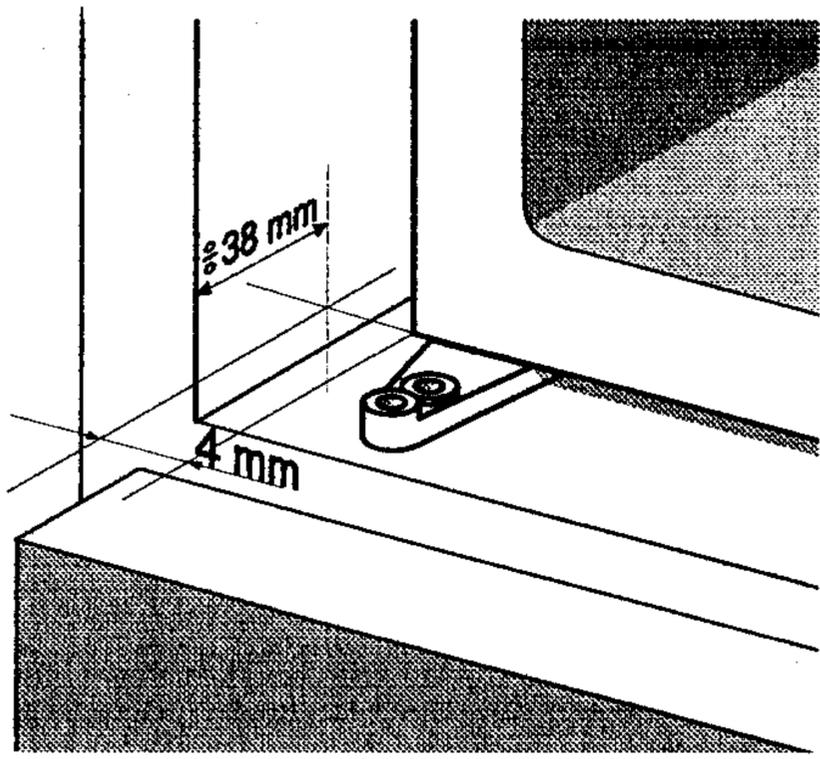

Fig. 1
- ❖ Push the appliance for some 38 mm into the kitchen unit and allow at least 4 mm free space on both sides between the appliance and the side walls of the kitchen unit (Fig. 1).